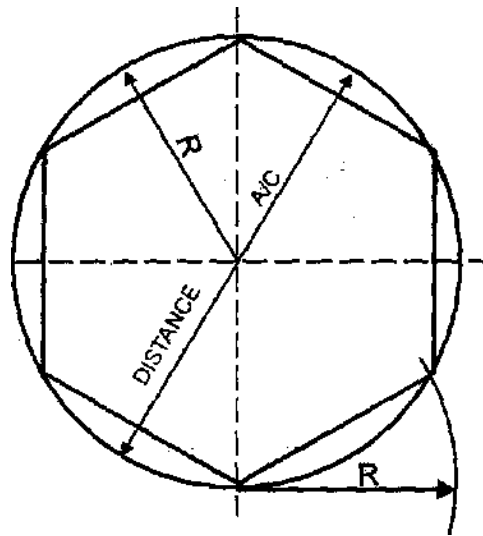

Fig. 7.2
- (iii) Form the hexagon by joining these points (see Fig. 7.2)